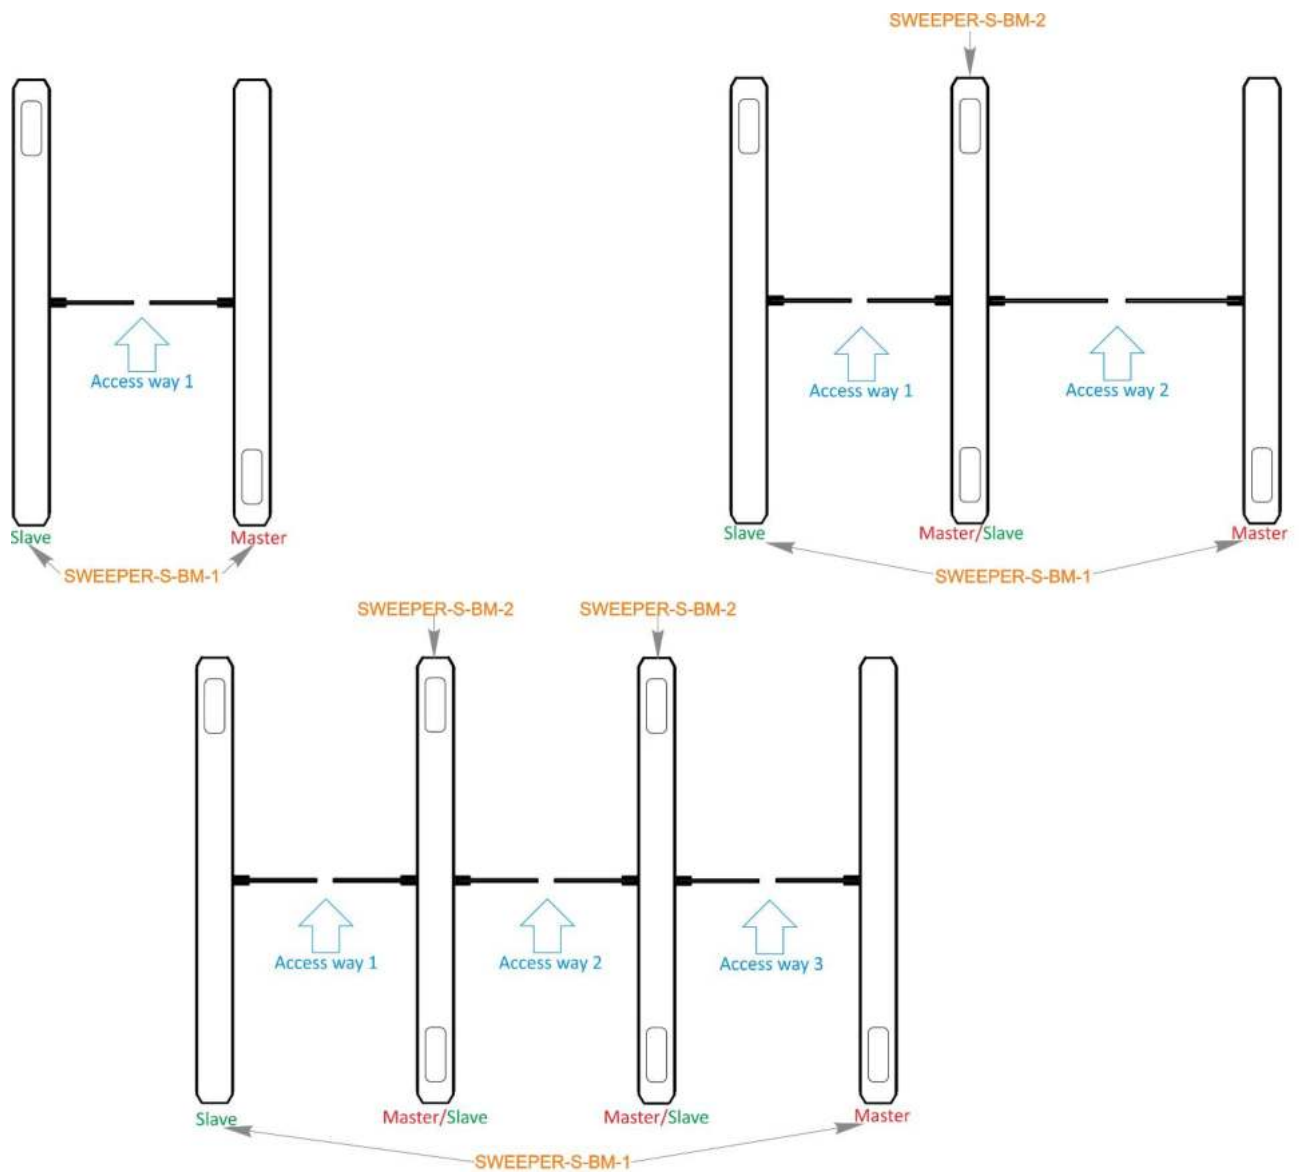

Fig. 14 – The " SWEEPER-S " turnstile access way arrangement options
- Cables between cabinets (Figure 14);